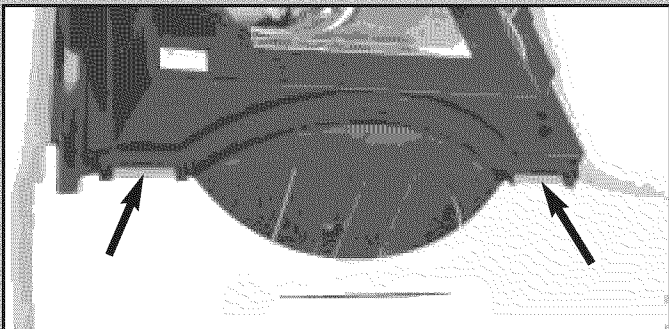

FIG. 10-1 Slide hinges into motor cover.
- Slide hinges into slots on motor cover (Fig. 10-1).